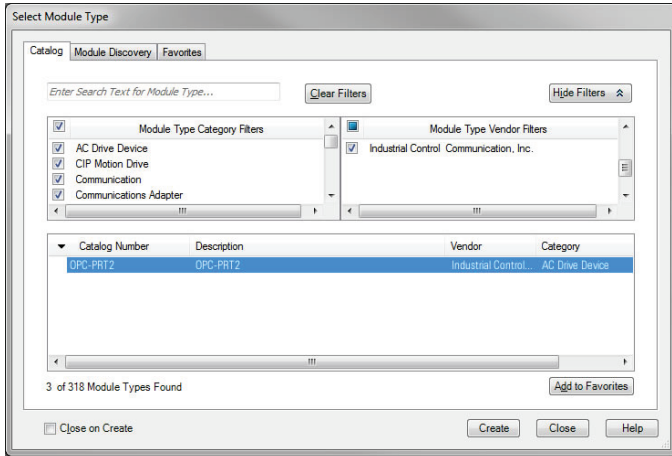

Figure 46: Adding a New Interface Card Module
- 11) Find the interface card in the "Select Module" dialog box as shown in Figure 46.